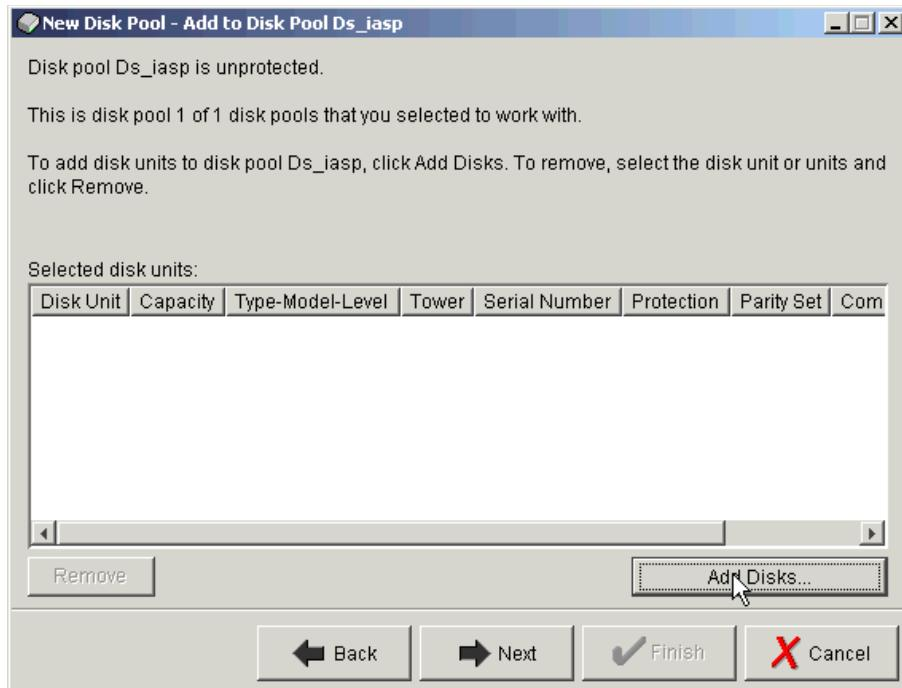

Figure 17-12 Add disks to disk pool
9. Now you need to add disks to the new disk pool. In the Add to Disk Pool window, click **Add Disks**, as shown in Figure 17-12.